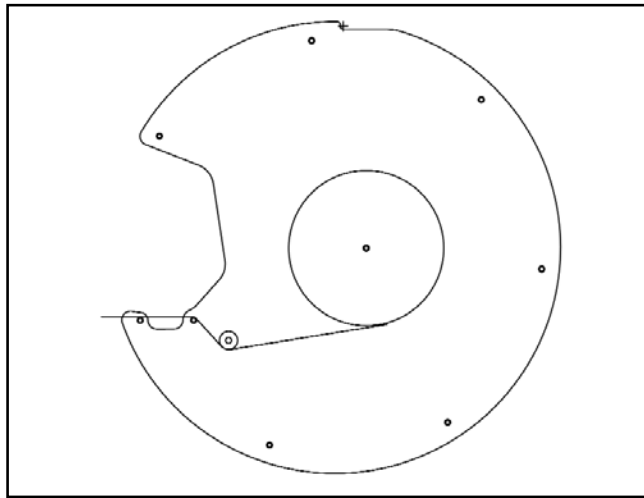

Figure 1
2. Thread tape through front rollers as shown in Fig. 1. Tape goes under large one-way roller and over the two smaller rollers.